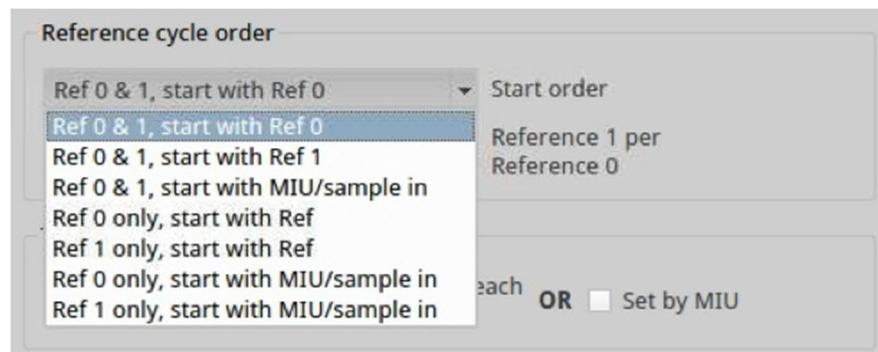

Figure 102: Reference Cycle Order Pane
7. In the *Reference cycle order pane*, use the drop down selection box to setup the Start order. (Figure 102)